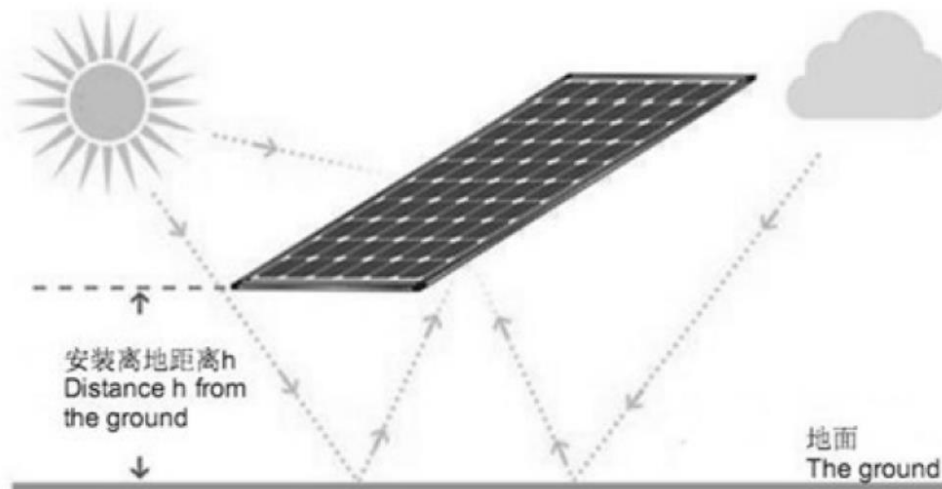

Fig. 5-2 Distance from the earth
- Due to the different ground clearance height will affect the power generation gain, it is recommended to install the module at a height from 1m to 2m. See Fig. 5-2.